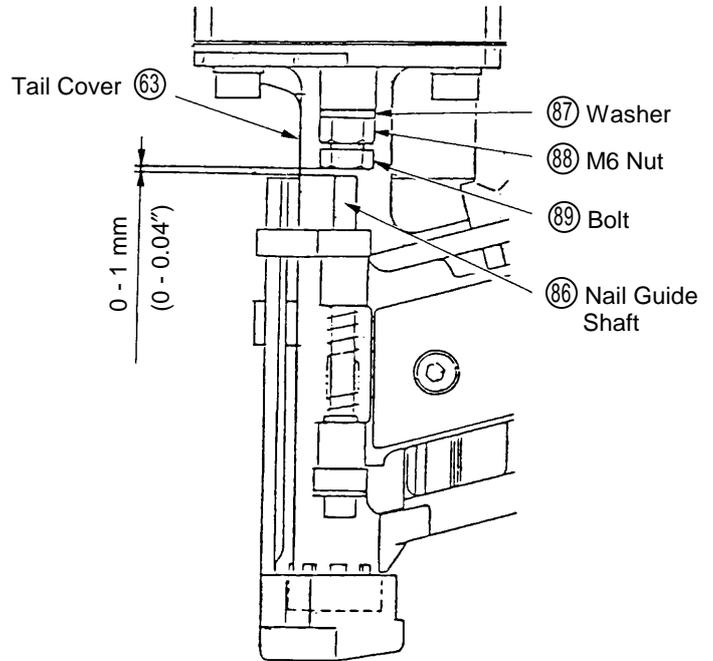

Fig. 18
- Prior to reassembly, thoroughly remove any tar or dirt which may be stuck on the Guard (32) or on the sliding portion of the Feeder (34).
- Assemble the Feeder Shaft Ring (36) onto the Feeder Shaft (35) so that the chamfered inner surface is facing toward the Feeder Spring (33) side.
- Ensure that the hooked portions at both ends of the Feeder Spring (33) are properly inserted into the provided grooves on the Feeder (34).
- Prior to reassembly, coat grease (Hitachi Motor Grease No. 29, Code No. 930035, is recommended) on the O-Ring (1P-9) (65), the Feed Piston O-Ring (66) (68), and the O-Ring sliding portions of the Feed Piston (67) and Tail Cover (63). However, as excessive grease will cause improper movement of the Feed Piston (67), be very careful during grease application. (This is particularly important if the tool is to be used at relatively low air pressures.)
- Carefully clean the air passage of the Tail Cover (63). Any dust or foreign matter in the air passage will cause malfunction of the Feed Piston (67).
(3) Disassembly and Resassembly of the Bolt ⑧⑨ (for driving depth adjustment) : (Refer to Fig. 18)
- After pushing the Nail Guide Shaft ⑧⑥ up to its highest possible position, tighten the M6 Nut ⑧⑧ to the Tail Cover side so that the clearance between the Bolt ⑧⑨ and the Nail Guide Shaft ⑧⑥ becomes 0 - 1 mm (0 - 0.04"), as illustrated in Fig. 18. If the Bolt ⑧⑨ is positioned higher than the tolerance prescribed above, it may push up the Piston Damper ②⑧ and cause air leakage. Be very careful to ensure correct assembly.